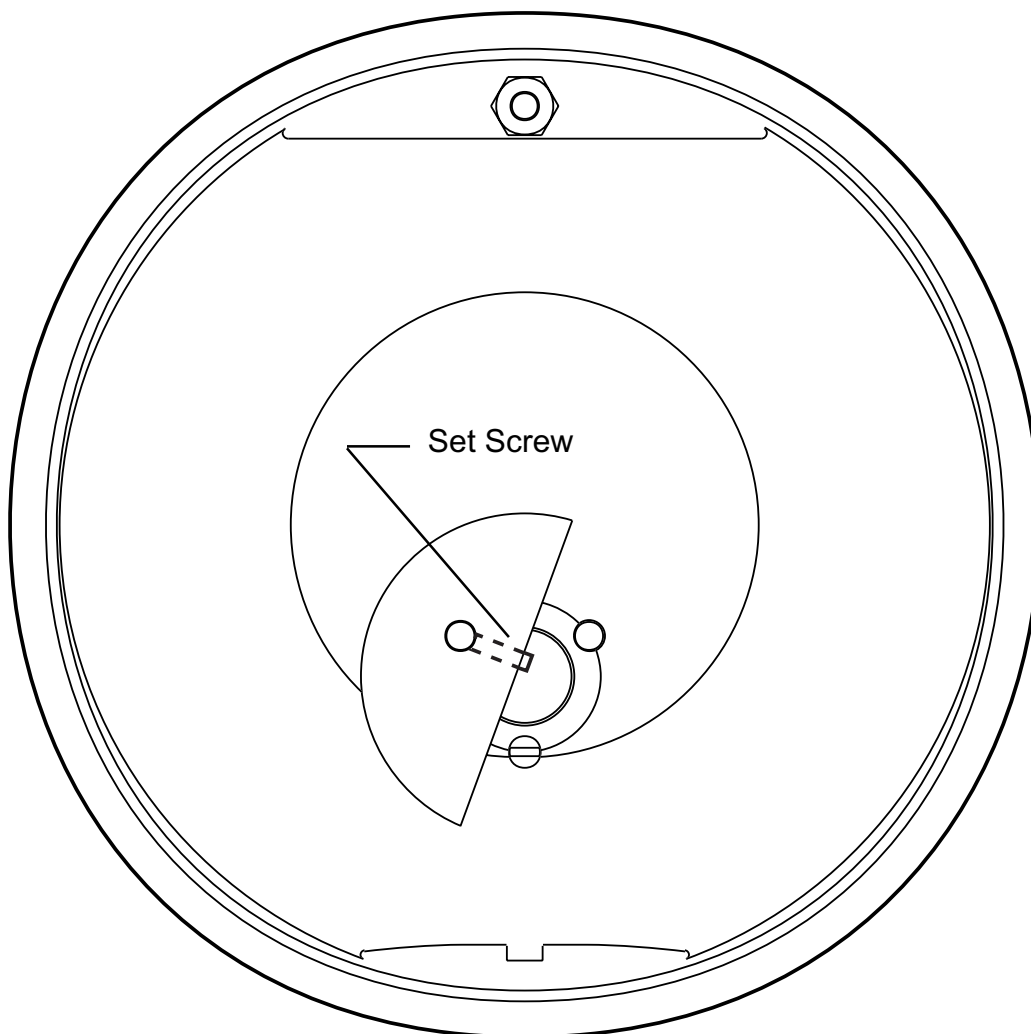

Figure 6.
1. After fully pressing the anode block into place, tighten the set screw with a 3/32 inch allen wrench, see Figure 6.